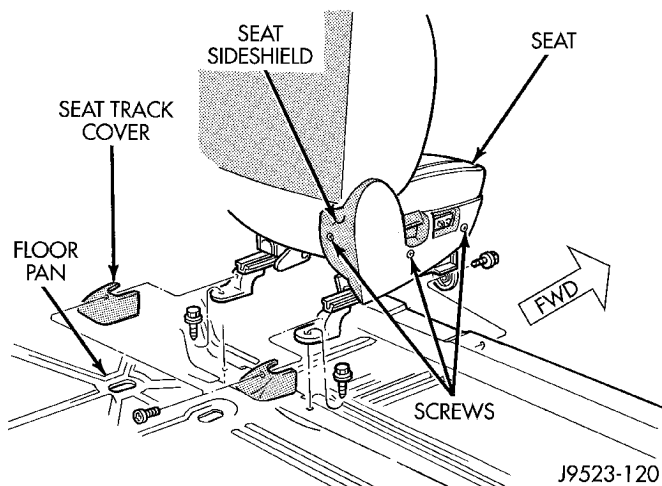

Fig. 49 Front Bucket Seat
- (1) Remove bolts attaching seat to floor pan (Fig. 49).
- (2) If equipped, disconnect power seat wire harness connector.
- (3) Remove seat from floor panel.